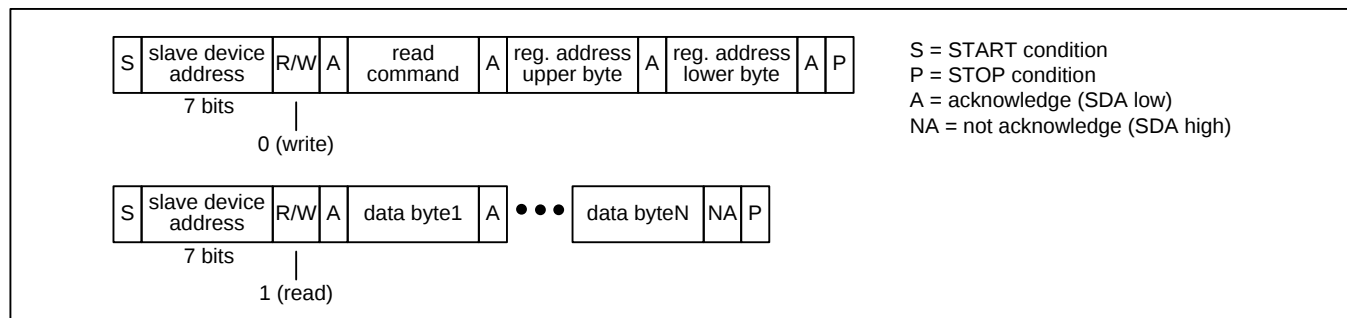
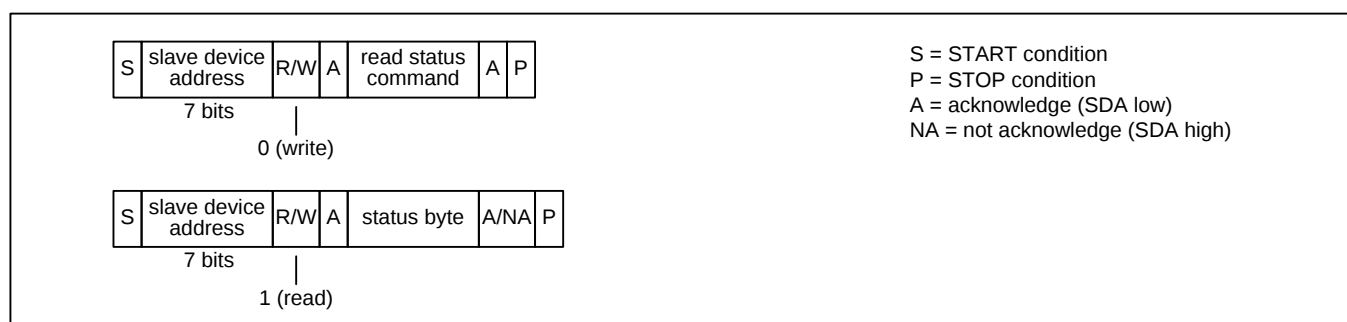

Figure 7 – I²C Read Transaction Functional Timing
Figure 10 – I²C EEPROM Read Status Transaction Functional Timing
Read Transactions. The device registers are accessible when EESSEL=0. The internal EEPROM memory is accessible when EESSEL=1. The bus master first does an I²C write to the device. In this transaction three bytes are written: the SPI Read command (see Table 3), the upper byte of the register address, and the lower byte of the register address. The bus master then does an I²C read. During each acknowledge (A) bit the device fetches data from the read address and then increments the read address. The device then transmits the data to the bus master during the next 8 SCL cycles. The bus master terminates the read with a not-acknowledge (NA) followed by a STOP condition (P). See Figure 7. Note: If the I²C write is separated in time from the I²C read by other I²C transactions then the device only outputs the data value from the first address and repeats that same data value after each acknowledge (A) generated by the bus master.
EEPROM Read Status. The bus master first does an I²C write to transmit the SPI Read Status command (see Table 3) to the device. The bus master then does an I²C read to get the status byte. In this byte, the least significant bit is set to 1 if the transfer is still in progress and 0 if the transfer has completed. See Figure 10.
Note: In Figure 7 through Figure 10, a STOP condition (P) immediately followed by a START condition (S) can be replaced by a repeated START condition (Sr) as described in the I²C specification.